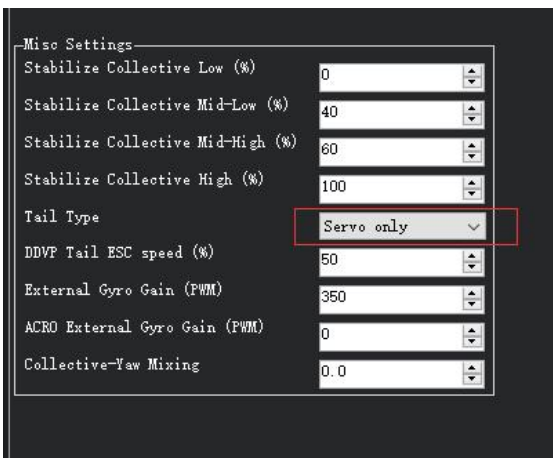
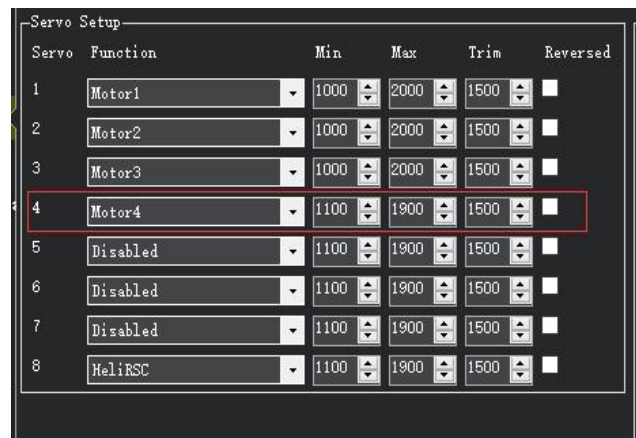

Figure 1 Select Servo Only
Figure 2 Set Output Channel
1. Servo Only: ArduPilot will supply the tail rotor stabilization like a tail rotor gyro and control the pitch of the tail rotor blades. As shown in Figure 1 below, select Servo Only in the Tail Type drop-down menu to configure it to use only servo control. As shown in Figure 2 below, set the parameter SERVOx_FUNCTION to Motor4 to control the tail servo. (The default output channel is channel 4.)